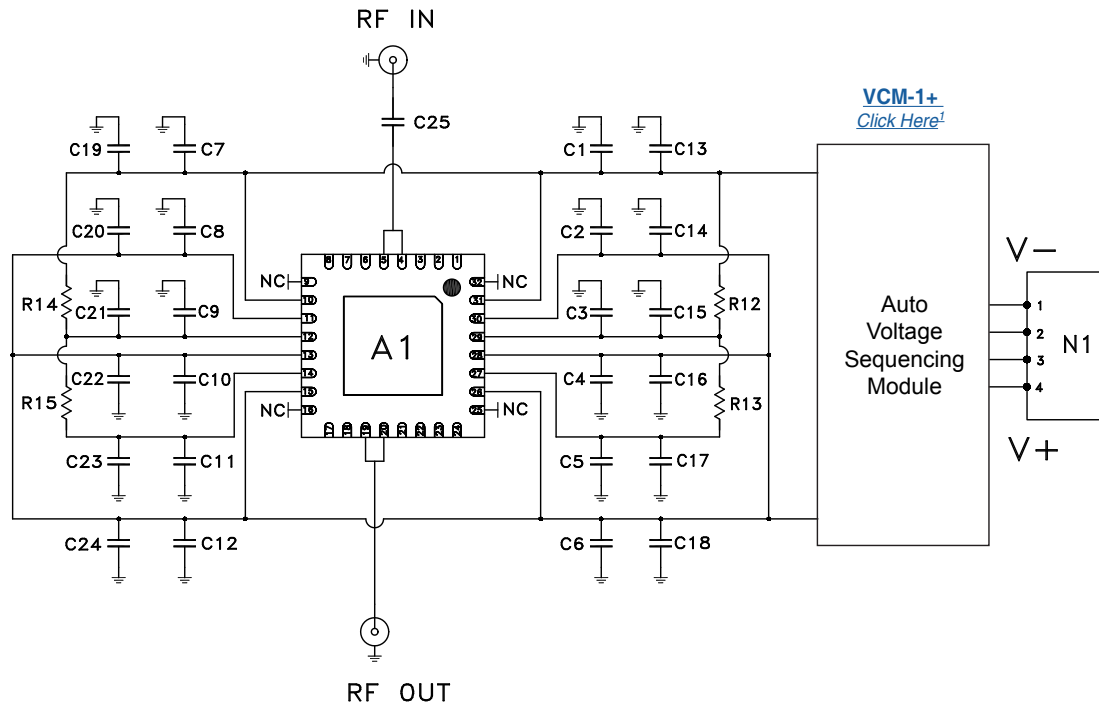

Fig. 1 Schematic of Test Board TBD (Test & Application)
1. Measured on Mini-Circuits Test Board TB-715-5V. See Characterization Test Circuit (Fig. 1), See cautionary note ⚠